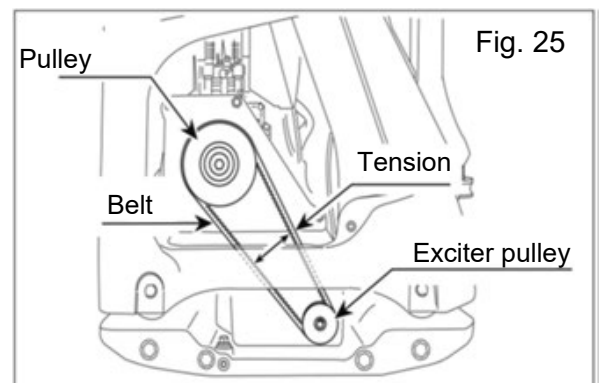

Fig. 25
- Every 100 hours of operation, remove the upper belt cover to check the V-belt tension. (Fig. 25)